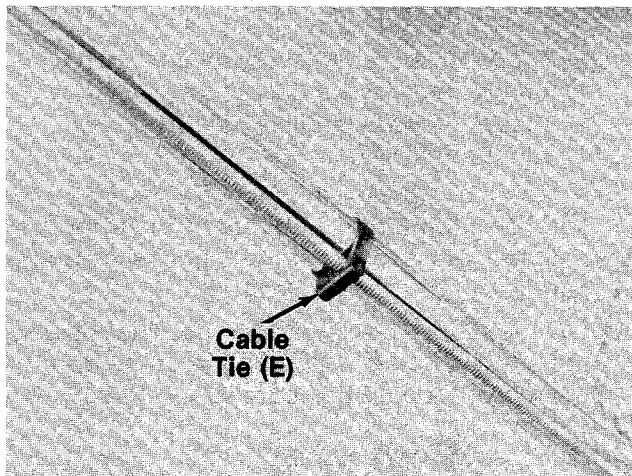

**FIGURE 5.**
5. Place the throttle control in position on right side of upper handle. Secure with hex bolt (F) and lock nut (G). See figure 5.